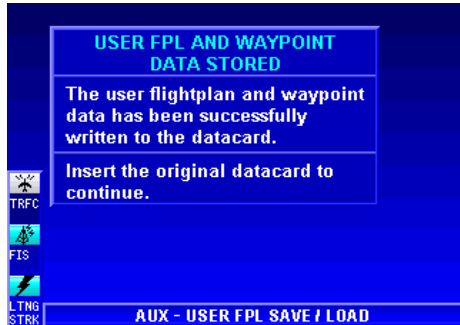

Figure 1-190
- After the datacard is inserted, the data will be copied and Figure 1-190 will be displayed indicating the data was copied successfully.
*NOTE: In units that do not contain the internal GPS, references to flight plans will not be displayed. For example the title of the window in Figure 1-190 will be "USER WAYPOINT DATA STORED".*